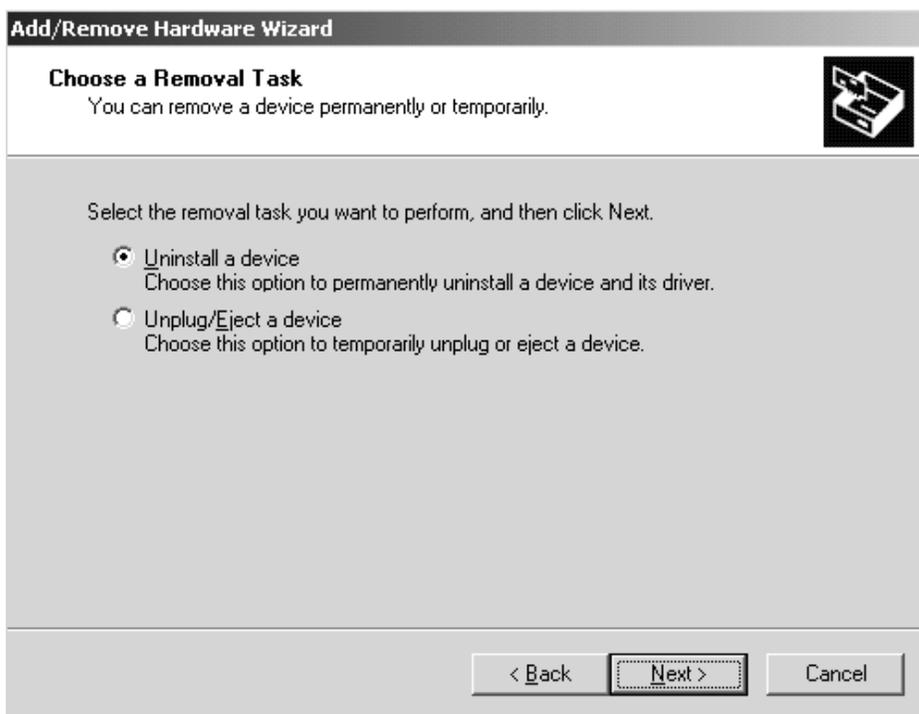

Figure 39. Uninstall a Device Menu
4. Check **Uninstall a device**, then click **Next**. See Figure 39.